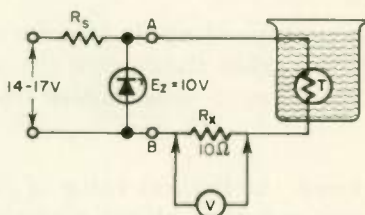

Fig. 33
- (1) photovoltaic cell. (2) photoconductive cell.
25. Figure 33 shows a simple temperature monitoring circuit. As the temperature of the liquid in the tank changes, so will the resistance of the thermistor. This will change the current through it, and also the current through the 10 ohm resistor R_x . The voltmeter, which is calibrated directly in degrees centigrade will measure this change. If the circuit is to be accurate, we must have a constant voltage across points A and B. Therefore, we use a zener diode. At 0°C the voltage drop across R_x is 0.125 volt. What is the resistance of the thermistor?